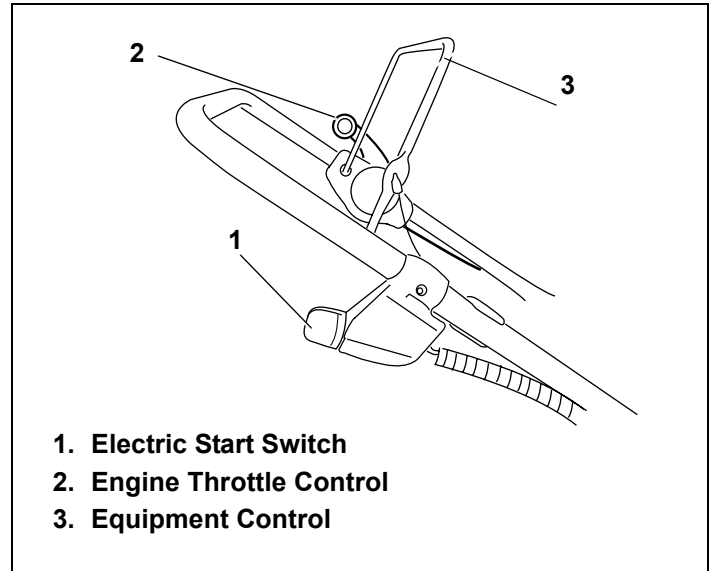

Figure 15. Typical Engine Controls
3. Operate equipment control to release engine brake or clutch, if present (see equipment manufacturer's instructions). See Figure 15 on page 9. Afterward, continue reading instructions below.
2. Move engine throttle control to "CHOKE" or "START" position, if present (see equipment manufacturer's instructions). See Figures 15 thru 17.
4. Operate equipment control to release engine brake or clutch, if present (see equipment manufacturer's instructions). See Figure 15.
- b. Momentarily move engine throttle control to "FAST" position. See Figures 15 thru 17.